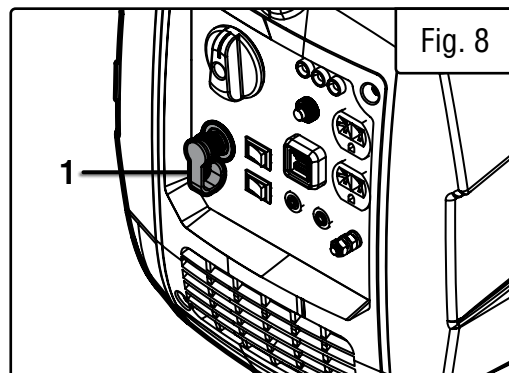

Fig. 8
3. Remove the protective rubber cover from the LPG inlet (Fig. 8 - 1) on the generator panel. Connect the nut on the other end of the regulator connecting hose to the LPG inlet. Tighten the nut using a 19mm or adjustable wrench (not included).